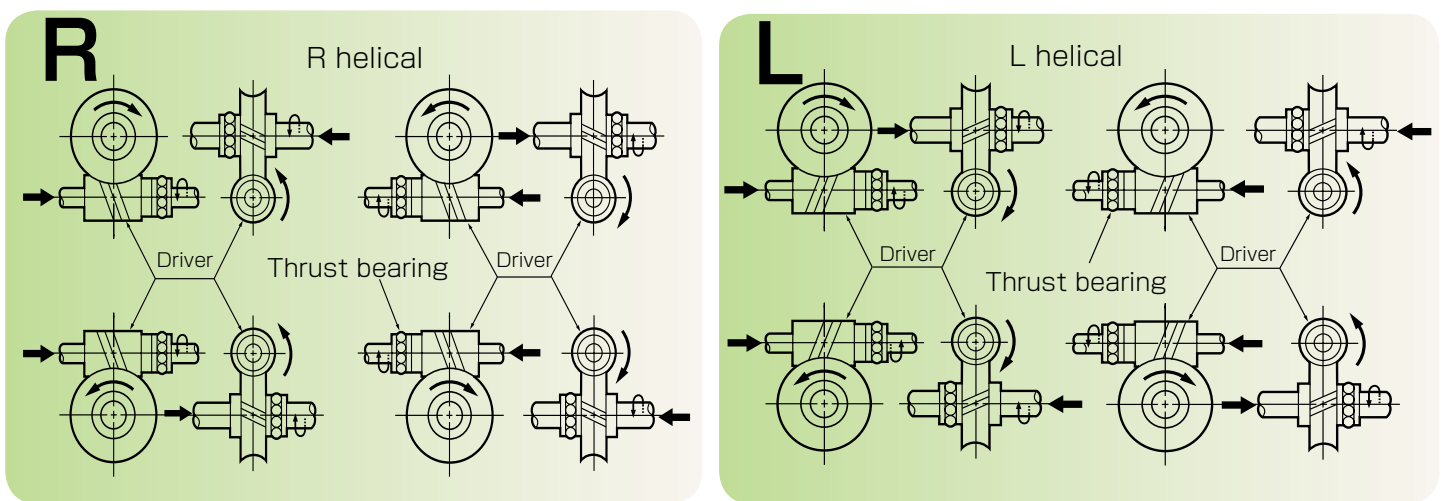

Fig.1.15 Direction of Rotation and Thrust Forces
The direction of rotation and thrust forces on right-helical (R) / left-helical (L) worm mesh, are shown in Figure 1.15.